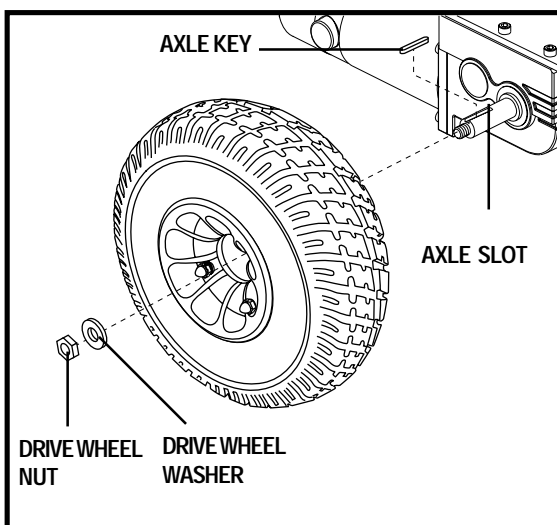

Figure 28. Jazzy 610 Drive Wheel
4. Remove the drive wheel nut and washer from the axle. See figure 28.